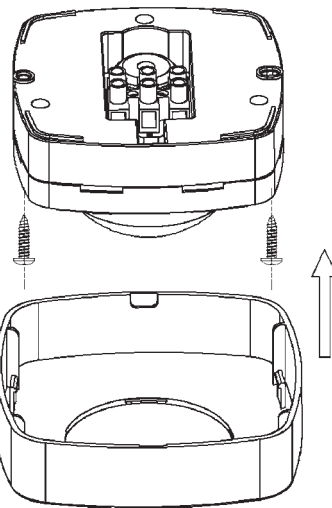

Fig. 1
- Fix the sensor to the mounting surface using suitable fasteners through the holes provided. (Fig.1).
- Fix the top cover to the sensor (Fig.1)